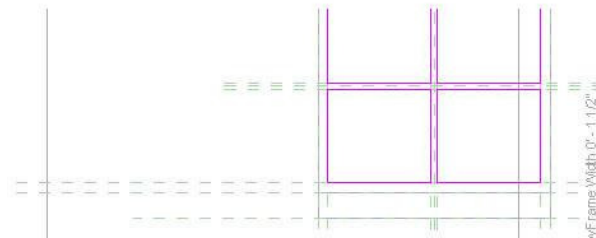

Figure 41. The glazing sketch.
4. Create the sketch shown in Figure 41, making sure that all lines are locked to the appropriate Reference Plane.